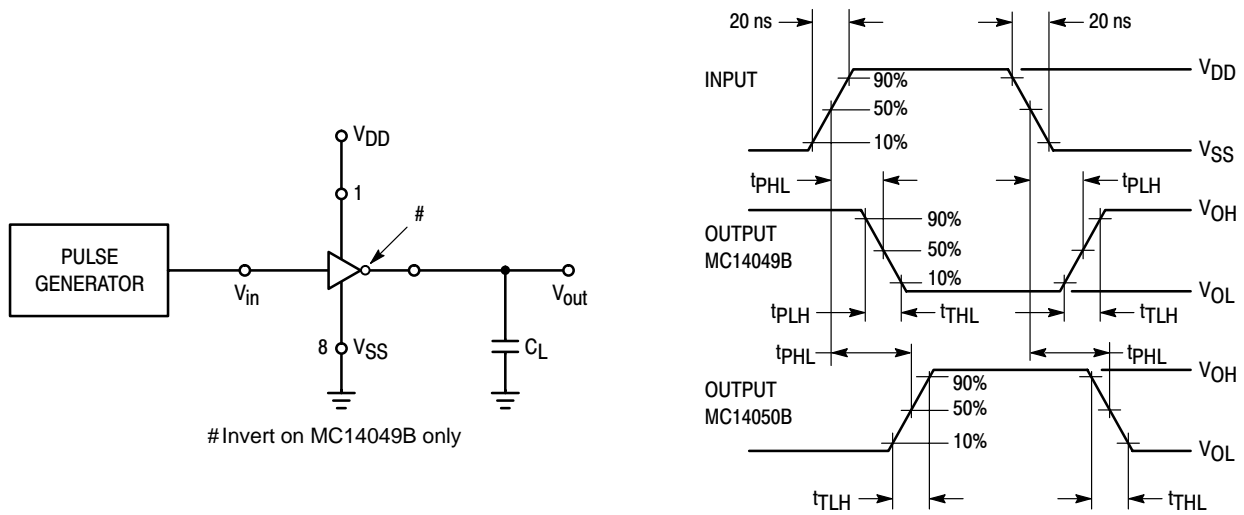

Figure 4. Switching Time Test Circuit and Waveforms
14. Temperature Derating: All Packages: See Figure 4.